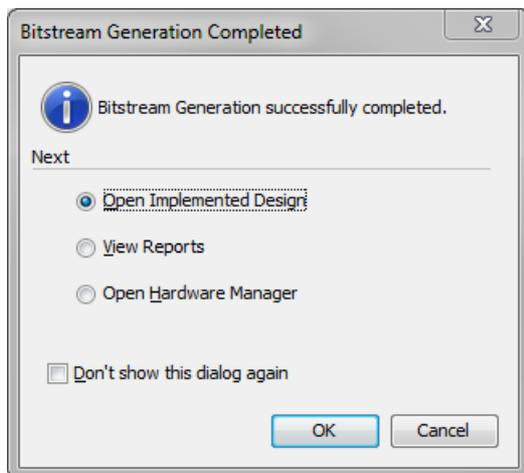

Figure 1.24: Bitstream Generation Completed Dialogue Window
- (q) Once the bitstream generation is finished, a dialogue window will open to inform you that the process has been completed successfully, as in Figure 1.24.